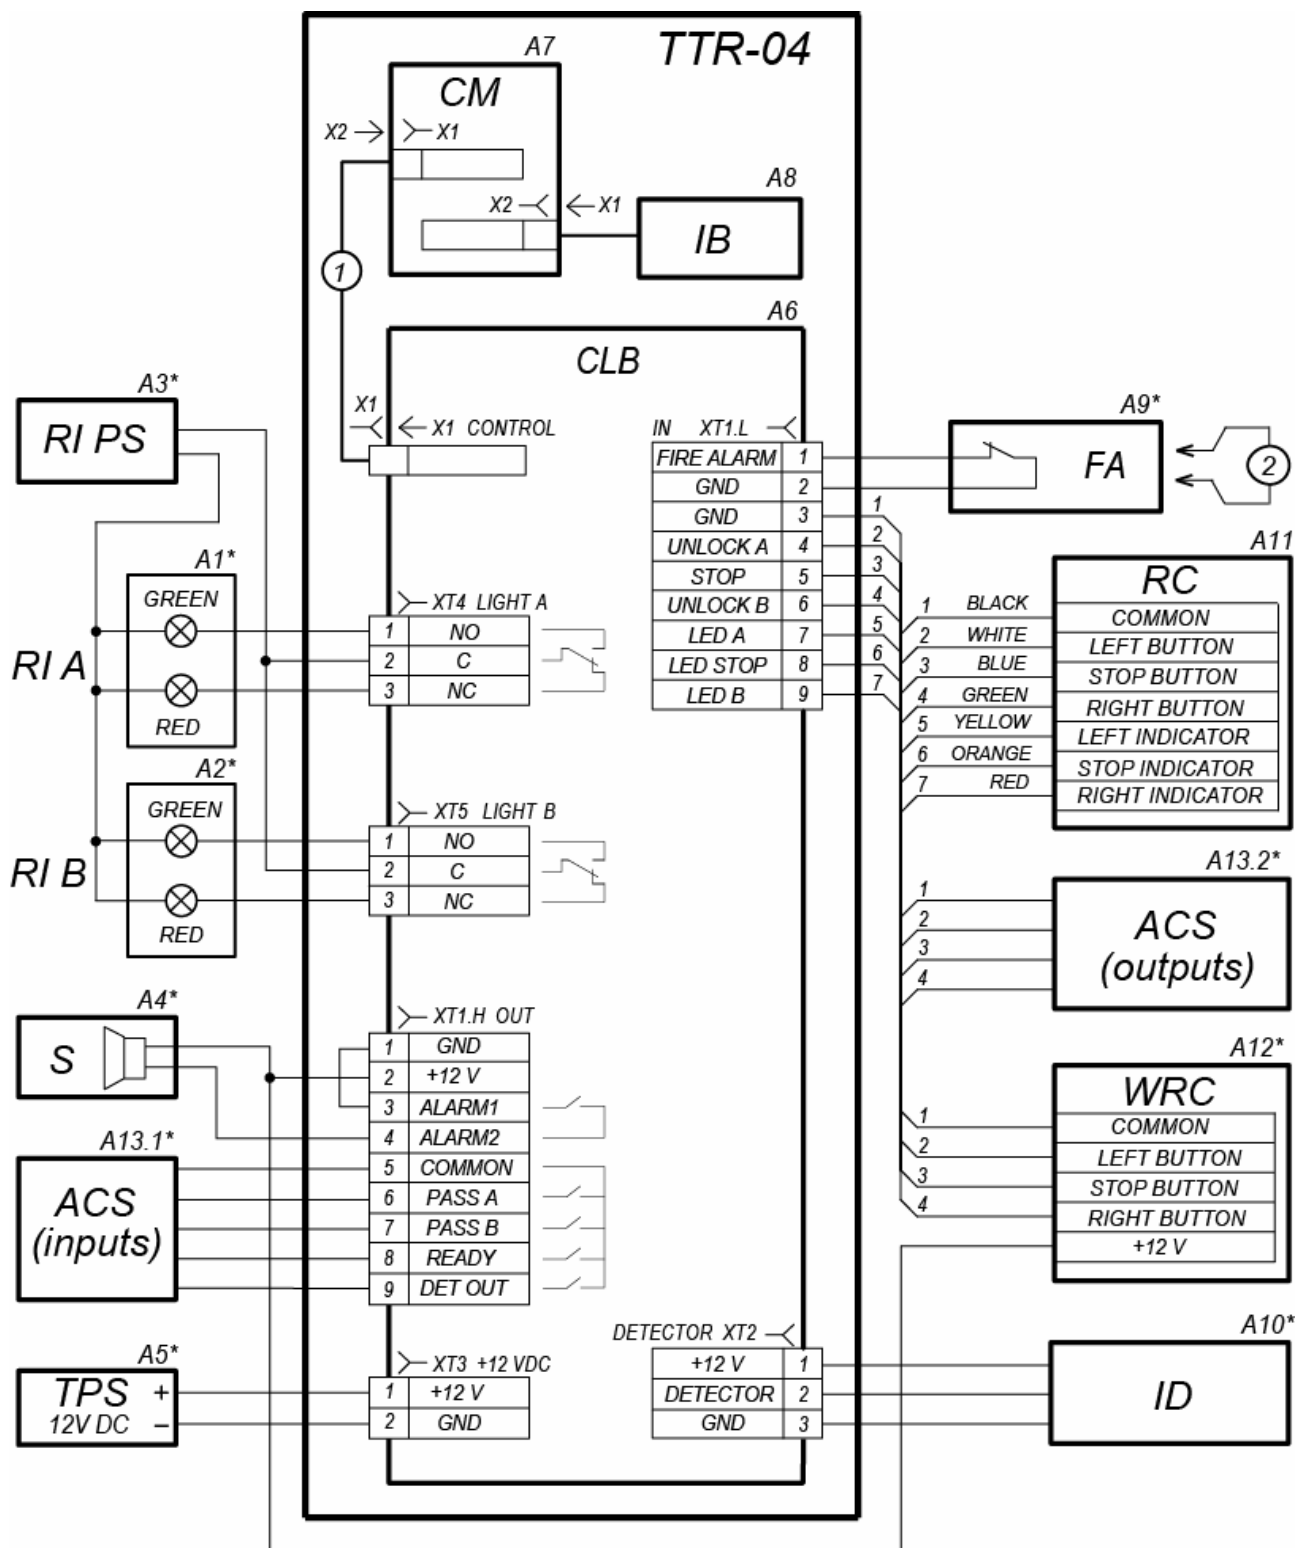

Figure 12. Connection layout of the turnstile and optional equipment
4. Install the turnstile power supply unit (8) in its place (see power supply unit certificate for installation procedure of the turnstile power supply).
5. Connect the power cable (9) from the turnstile power supply (8) to the CLB **XT3** connector block. Connect the RC panel cable (11) to the CLB **XT1.L** connector block. Connect all the other devices cables to the corresponding CLB connector blocks (see Fig. 5 and Fig. 12).
6. Remove the cover with LED indication display (2) in the following way:
- unscrew the central bolt of the cover with LED indication display (2), located beneath the hub (3) close to the mechanical release lock (15) with the S10 socket wrench;
- remove the cover with LED indication display (2), by lifting the cover by its rear edge in the LED indication display direction and taking it out of the hooks;
- carefully disconnect the indication board cable header from the control mechanism connector and place the cover with light display (2) on the level steady surface.
10. Connect the indication board cable header to the control mechanism connector and mount the cover with LED indication display (2) back into its place in the reverse order. When the cover with LED indication display (2) mounting is carried out correctly it does not need much effort.
Table 2. Legend to Figure 12